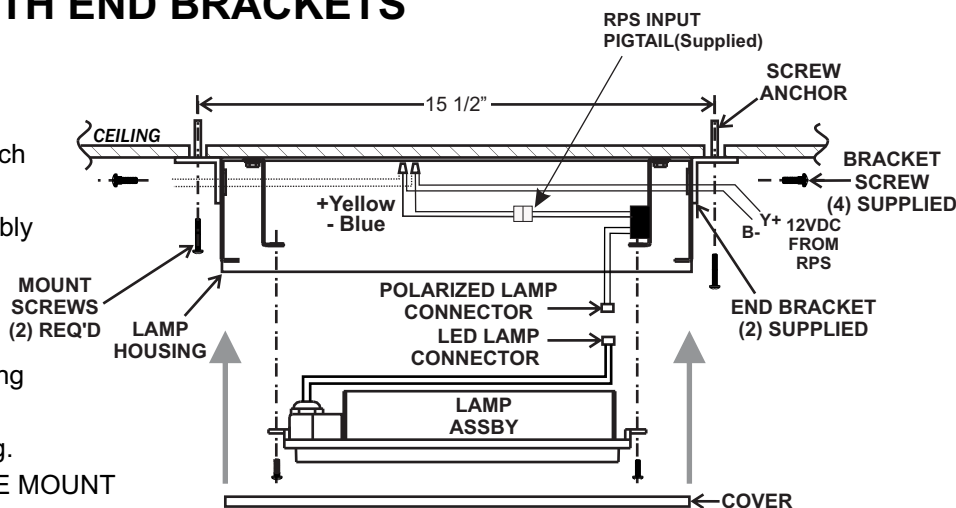

Fig.2
1. See Fig 2. Install (2) screw anchors at 15 1/2" centers.
2. Insert flat blade screwdriver under notch at end of cover, twist gently to release cover plate. Unscrew (2) #8 lamp assembly screws, lift lamp assembly from Housing and disconnect lamp plug.
3. Attach end brackets with (4) #8 screws and nuts as shown, mount housing assembly to ceiling and route 12VDC INPUT wiring from RPS Box into housing.